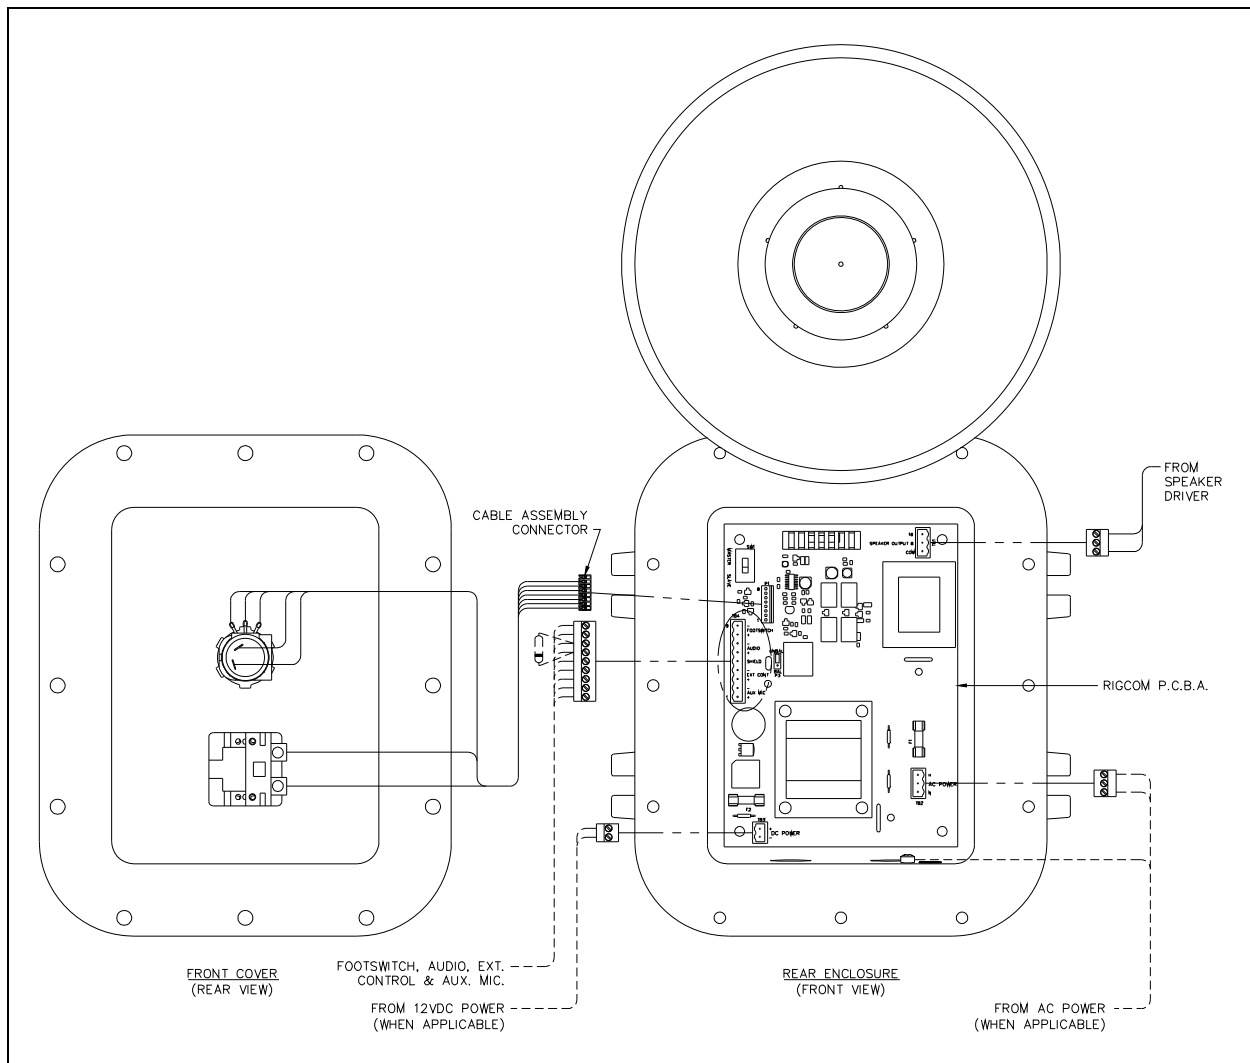

Figure 1. PCBA Replacement Diagram
11. Plug all of the connectors into the new PCBA. See Figure 1.